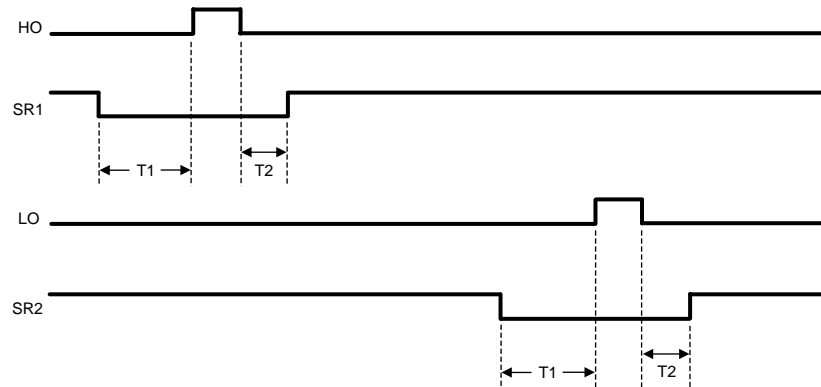

Figure 15. HO, LO, SR1 and SR2 Timing Diagram
Synchronous rectification (SR) of the transformer secondary provides higher efficiency, especially for low output voltage converters. The reduction of rectifier forward voltage drop (0.5V - 1.5V) to 10mV - 200mV V_{DS} voltage for a MOSFET significantly reduces rectification losses. In a typical application, the transformer secondary winding is center tapped, with the output power inductor in series with the center tap. The SR MOSFETs provide the ground path for the energized secondary winding and the inductor current. Figure 15 shows that the SR2 MOSFET is conducting while HO enables power transfer from the primary. The SR1 MOSFET must be disabled during this period since the secondary winding connected to the SR1 MOSFET drain is twice the voltage of the center tap. At the conclusion of the HO pulse, the inductor current continues to flow through the SR1 MOSFET body diode. Since the body diode causes more loss than the SR MOSFET, efficiency can be improved by minimizing the T2 period while maintaining sufficient timing margin over all conditions (component tolerances, etc.) to prevent shoot-through current. When LO enables power transfer from the primary, the SR1 MOSFET is enabled and the SR2 MOSFET is off.
The timing of SR1 and SR2 with respect to HO and LO is shown in Figure 15. SR1 is configured out of phase with HO and SR2 is configured out of phase with LO. The deadtime between transitions is programmable by a resistor connected from the DLY pin to the AGND pin. Typically, R_{DLY} is set in the range of 10k Ω to 100k Ω . The deadtime periods can be calculated using the following formulae:
The R_{DLY} resistor programs the delays between the SR1 and SR2 signals and the HO and LO driver outputs. Figure 15 shows the relationship between these outputs. The DLY pin is nominally set at 2.5V and the current is sensed through R_{DLY} to ground. This current is used to adjust the amount of deadtime before the HO and LO pulse (T1) and after the HO and LO pulse (T2). Typically R_{DLY} is in the range of 10k Ω to 100k Ω . The deadtime periods can be calculated using the following formulae: